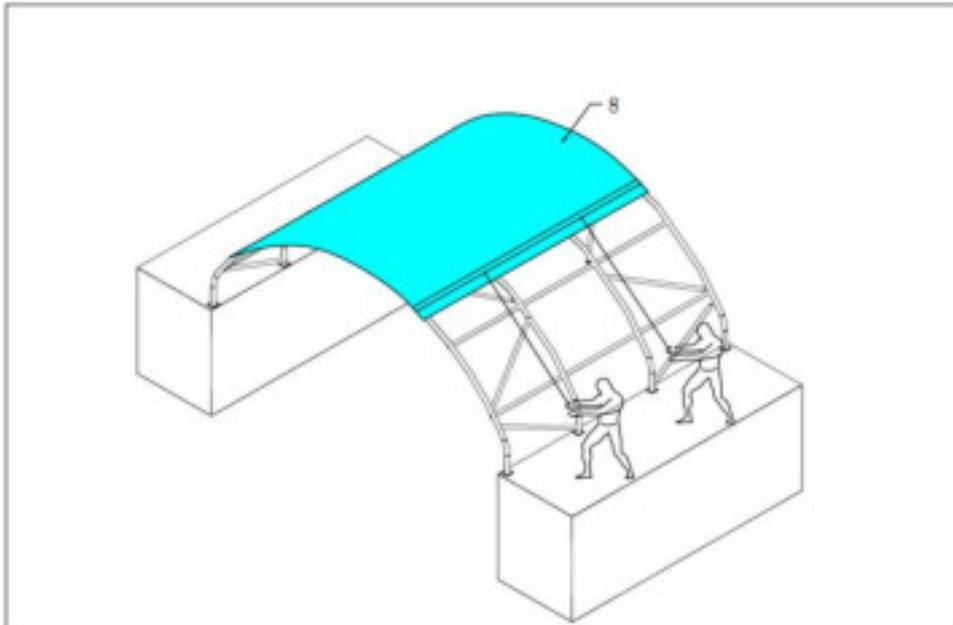

Figure 9
2. As **Figure 9 shown**, put the Roof cover (**part code 8**) EVENLY, CARRFULLR AND SLOWLY on the frame. Adjust the cover so that it is square and evenly centered on the frame.